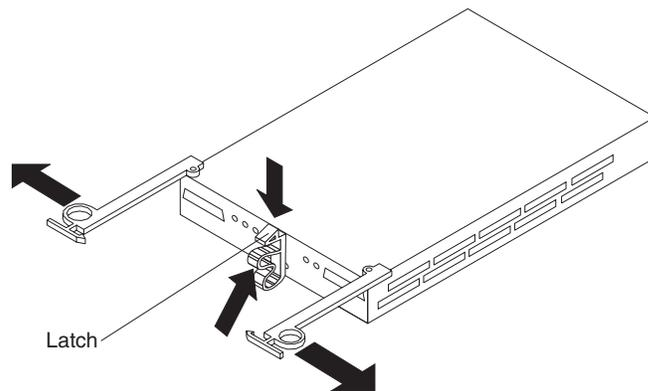

Figure 42. Removing the failed ESM
7. Push down on the ESM latch. While holding down the ESM latch, grasp the pull rings and pull out on the levers to disconnect the ESM from the EXP100 midplane. The ESM levers will pop out of the locked position, as shown in Figure 42.